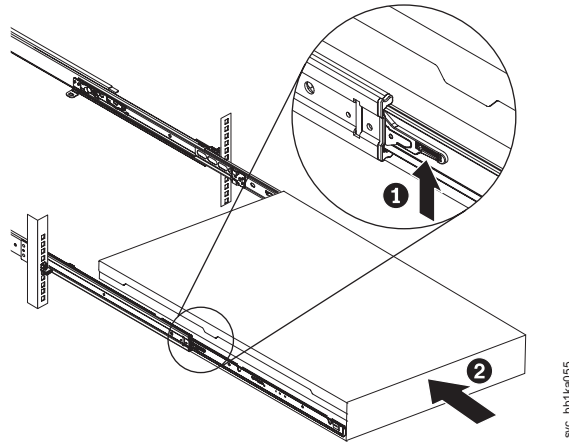

Figure 36. Raising the 2145-CG8 or 2145-CF8 locking levers of the slide rails of the rack
2. Lift the locking levers (**1** in Figure 36 on page 61) on the slide rails and push the server **2** all the way into the rack until it clicks into place.